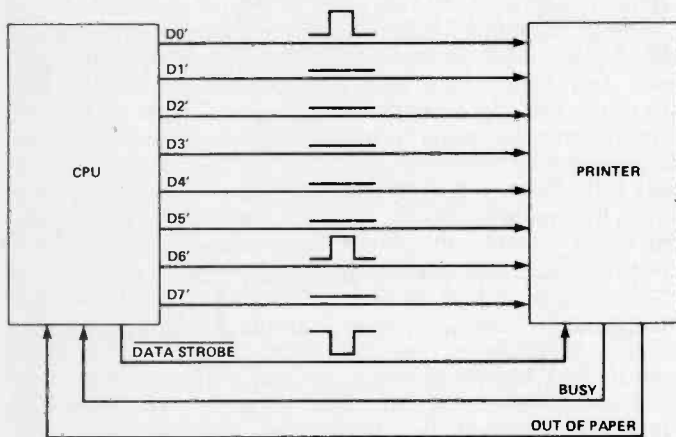
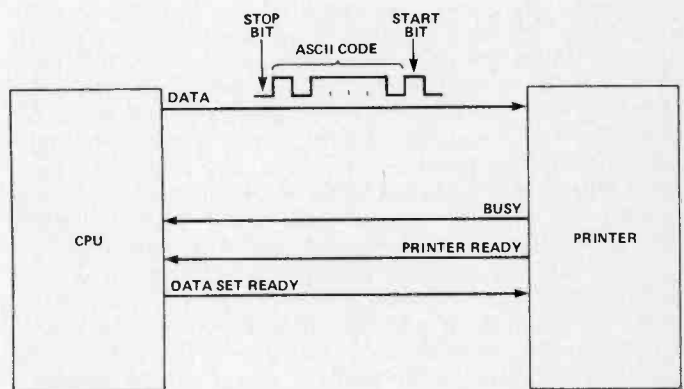

Fig. 12 Parallel data transfer between computer and printer.
Fig. 13 Serial transfer of data between computer and printer.
There are two main ways in which a computer and printer may be connected. The parallel transfer of data is illustrated in Fig. 12. An example of this system is the Centronics interface, originally devised by manufacturers of Centronics printers but now adopted by many other manufacturers. The first point to note is that there is two-way communication, in contrast with the one-way communication between computer and monitor. This is a consequence of the relatively slow speed of a printer. A computer can instruct a printer far faster than the printer can print. Rather than have the computer waste its valuable time waiting for the printer to operate letter by letter, we let the computer send a long string of commands to the printer in rapid succession. Since there are eight data lines, the computer can send a byte at a time. This is normally the ASCII code for the letter required. The printer can also interpret ASCII control characters for operations such as line feed (LF) and carriage return (CR). Whenever the computer is outputting data it makes the DATA STROBE line low. This has the same function as the WR control line used internally, and is derived almost
In Fig. 12 the pulses drawn above the parallel data lines indicate that the computer is sending 0100 0001 (or 65 decimal, the ASCII code for 'A'). In Fig. 13 the same ASCII code is being sent serially along one data line. Sending eight bits one after another is obviously slower than sending them in parallel, a byte at a time, as in Fig. 12, but since printers are relatively slow this is not a great disadvantage.